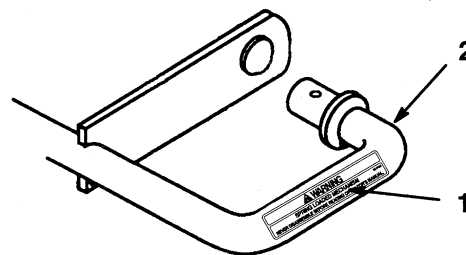

Figure 9
7. Install warning decal to left and right lift arms (Fig. 9).